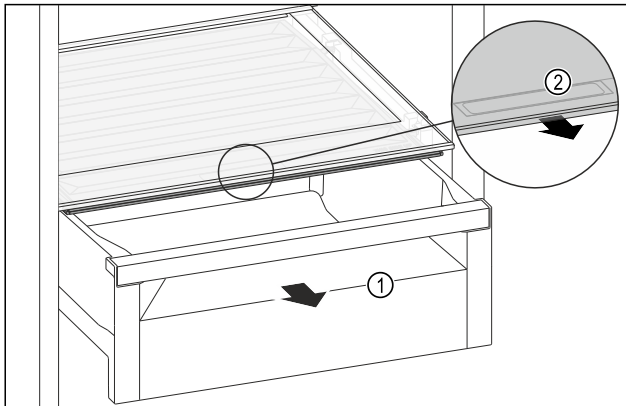

Fig. 228
- ▶ Pull out the drawer Fig. 228 (1).
- ▶ Grasp the recessed grip Fig. 228 (2) on the compartment lid and pull the compartment lid forwards at the same time.